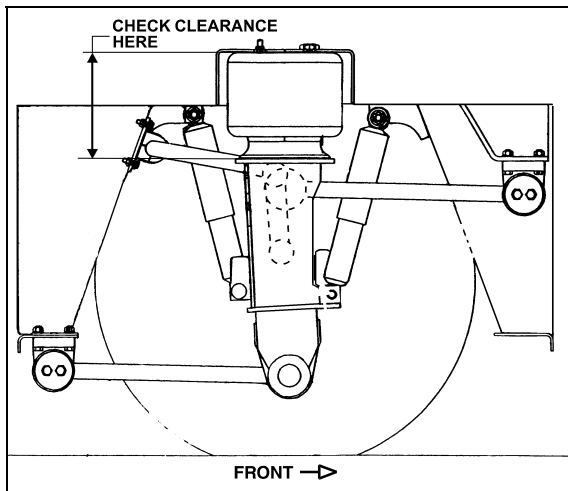

FIGURE 51: TYPICAL AIR SPRING CLEARANCE, FRONT I-BEAM AXLE
1. With the vehicle at normal operating air pressure, check the air spring clearance as illustrated in figure 51. This clearance should be $12 \pm \frac{1}{4}$ " (305 \pm 6 mm) for the front I-beam axle air springs, $12 \frac{15}{16} \pm \frac{1}{4}$ in (328 \pm 6 mm) for the Independent Front Suspension air springs and $11 \frac{1}{2} \pm \frac{1}{4}$ " (292 \pm 6 mm) for those on the drive axle.